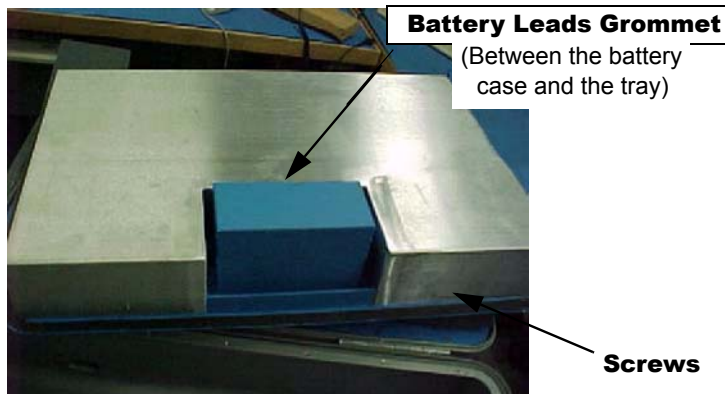

Figure 10
- 19.7 Remove the (12) screws securing the EMI tray to the panel as shown in Figure 10.